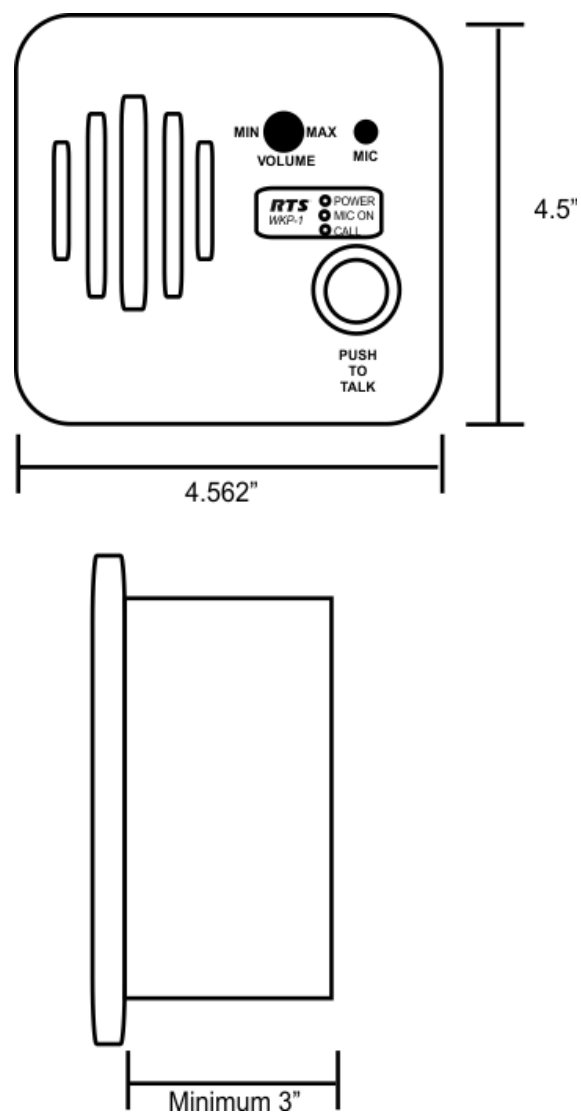

FIGURE 2. WKP-1 Industrial Keypanel size requirements
The WKP-1 mounts directly into a standard 2-gang electrical box. The electrical box must be at minimum three (3) inches deep to accommodate the stacked design of the PC boards (see Figure 2).